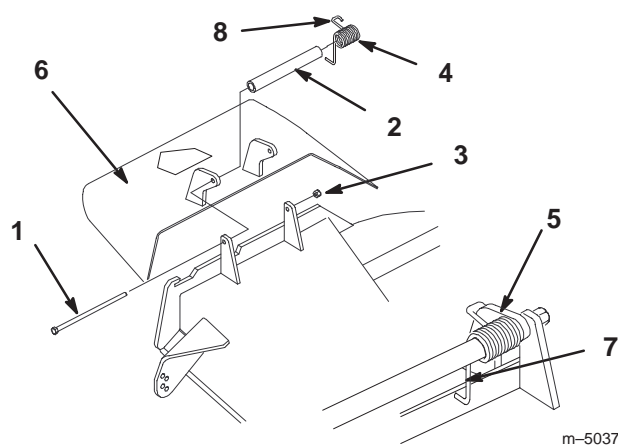

Figure 72
1. Remove the locknut, bolt, spring and spacer holding the deflector to the pivot brackets (Fig. 72). Remove damaged or worn grass deflector.
Note: Make sure the **L** end of spring is installed behind deck edge before installing the bolt as shown in figure 72.
3. Install bolt and nut. Place **J** hook end of spring around grass deflector (Fig. 72).